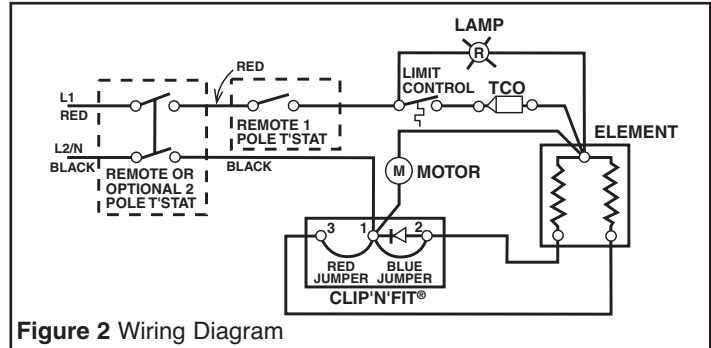

Figure 2 Wiring Diagram
- Following wiring diagram (Figure 2) connect supply wires to heater lead-wires in back box using appropriate wire connectors.